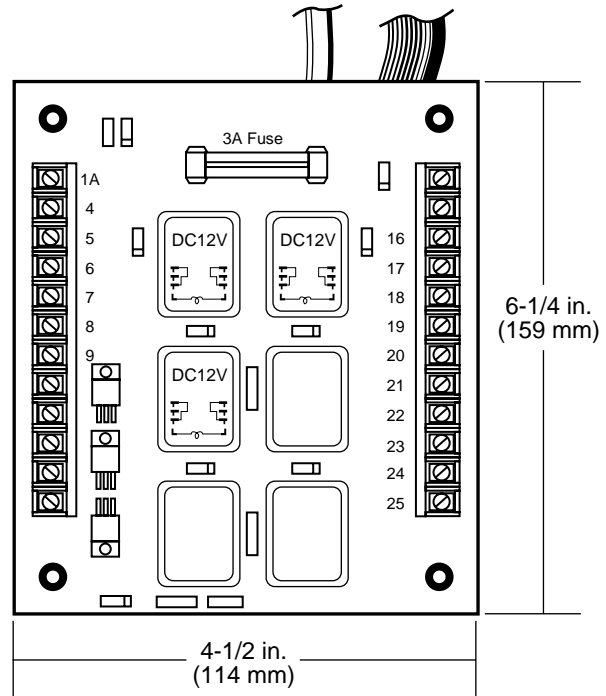

Figure 3-4.2
3-4.2 Relay Module. The Relay Module, figure 3-4.2, includes all of the control, alarm and shutdown relays that are required to make up the generator engine control. Relays are available for operation on either 12 or 24 volt battery systems. Three (3) relays are included for: